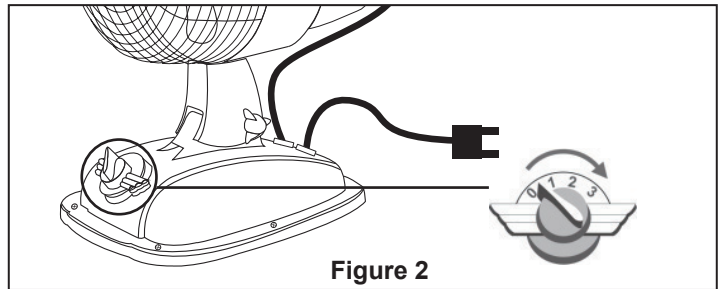

Figure 2
2. Select the desired airflow, located on fan base by rotating switch clockwise. (Figure 2)